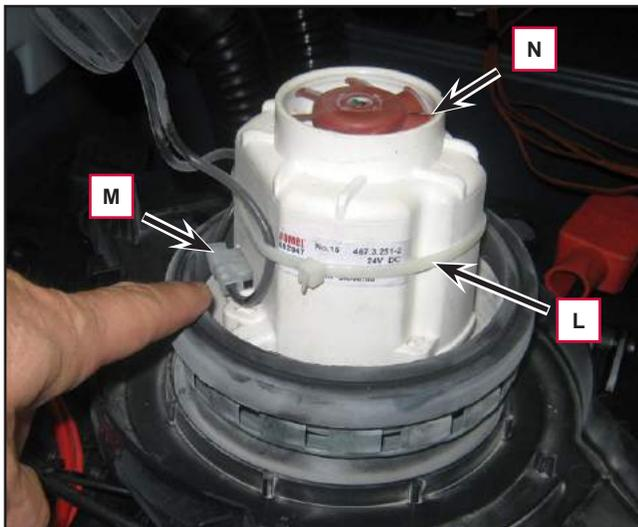

Figure 10
12. Cut the strap (L) and disconnect the power supply (M) (Figure 10).
13. Remove the motor (N).